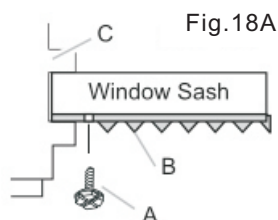
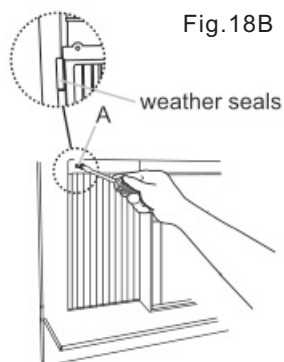

Fig.18A
Fig.18B
2. Use a $1/8"$ drill bit to drill a starter hole through the hole in the top leg of each window filler panel and into the window sash (Fig. 18A and Fig. 18B). Connect with one $3/4"$ (or $1/2"$) long hex head screw.